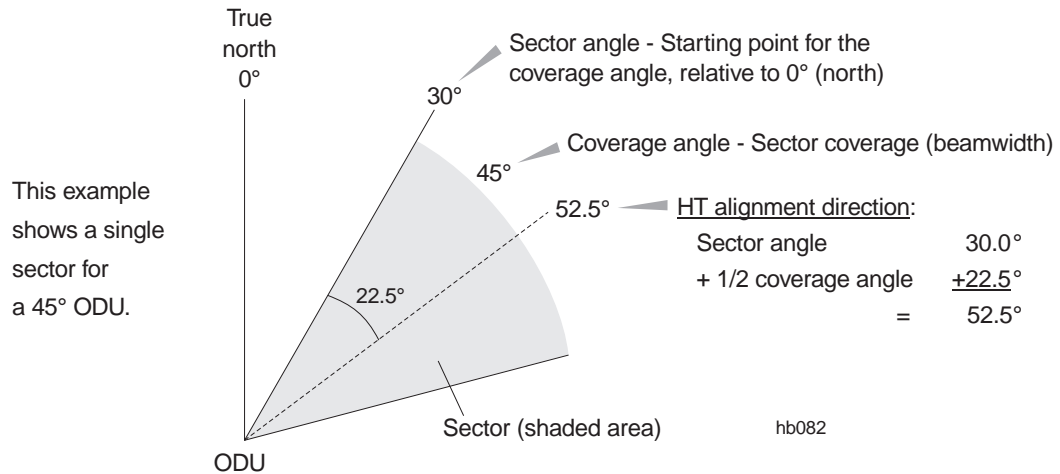

Figure 4-4 HT sector definition and terminology
9. Using the map, directional markings you have made on the roof, the protractor, and landmarks, point the center of the antenna toward the HT alignment direction (i.e., toward the center of the sector, or coverage area) as you install the antenna. (See figure 4-4. Installation instructions for the antenna are covered in sections 4.4 through 4.9.)
Each sector is defined by a sector angle and coverage angle, as illustrated in figure 4-4. However, to align the antenna, you only need to know the assigned HT alignment direction.